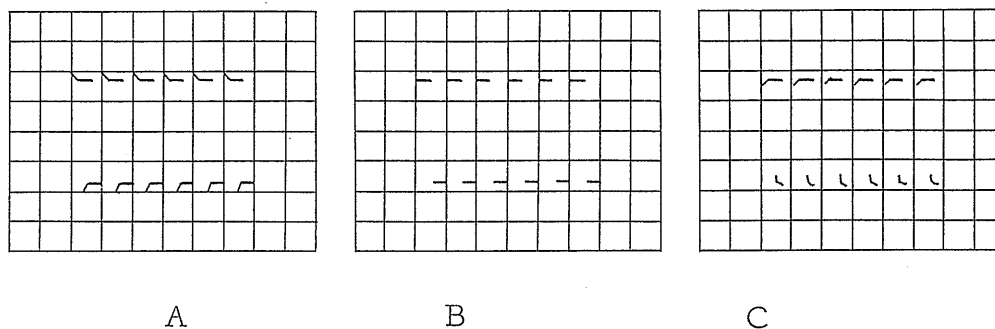

Fig. 14
- (1) Connect to the vertical axis input terminal an accurate square-wave generator having a repetition frequency of approximately 1 kHz and an output voltage range covering 0.05~100 V.
- (2) Set the SENSITIVITY switch to the 1/10 position.
- (3) Adjust the output of the square-wave generator to show one of the square waveforms as shown in Fig. 14 on the CRT screen.